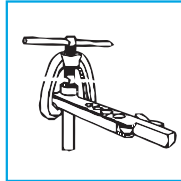

Fig 3.
3. Turn the handle clockwise slowly so the Flaring Tip extends downwards toward the pipe and flares the pipe end to a 45° angle (Figure 3).